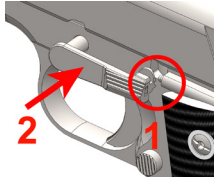

Figure 45
- Without making contact between the slide stop lug and the exterior surface of the pistol, line up the slide stop lug and the slide stop plunger. There is a small notch in the slide stop lug. Line this notch up with the plunger. Once this is lined up, press the slide stop straight into the pistol frame. Ensure that it is fully seated – Figure 45.